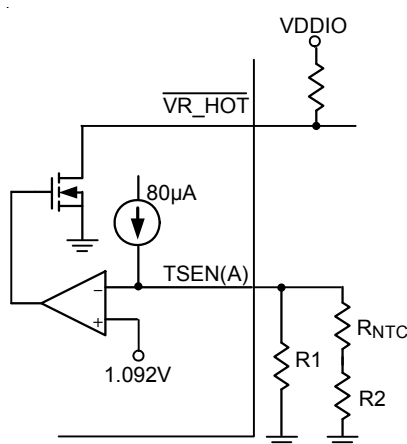

Figure 8. $\overline{\text{VR_HOT}}$ Circuit
The $\overline{\text{VR_HOT}}$ signal is an open-drain signal which is used for VR thermal protection. When the sensed voltage in TSEN(A) pin is less than 1.092V, the $\overline{\text{VR_HOT}}$ signal will be pulled-low to notify CPU that the thermal protection needs to work. According to Intel VR definition, $\overline{\text{VR_HOT}}$ signal needs acting if VR power chain temperature exceeds 100°C. Placing an NTC thermistor at the hottest area in the VR power chain and its connection is shown in Figure 8, to design the voltage divider elements (R1, R2 and NTC) so that $V_{\text{TSEN(A)}} = 1.092\text{V}$ at 100°C. The resistance error of TSEN network is recommended to be 1% or smaller.